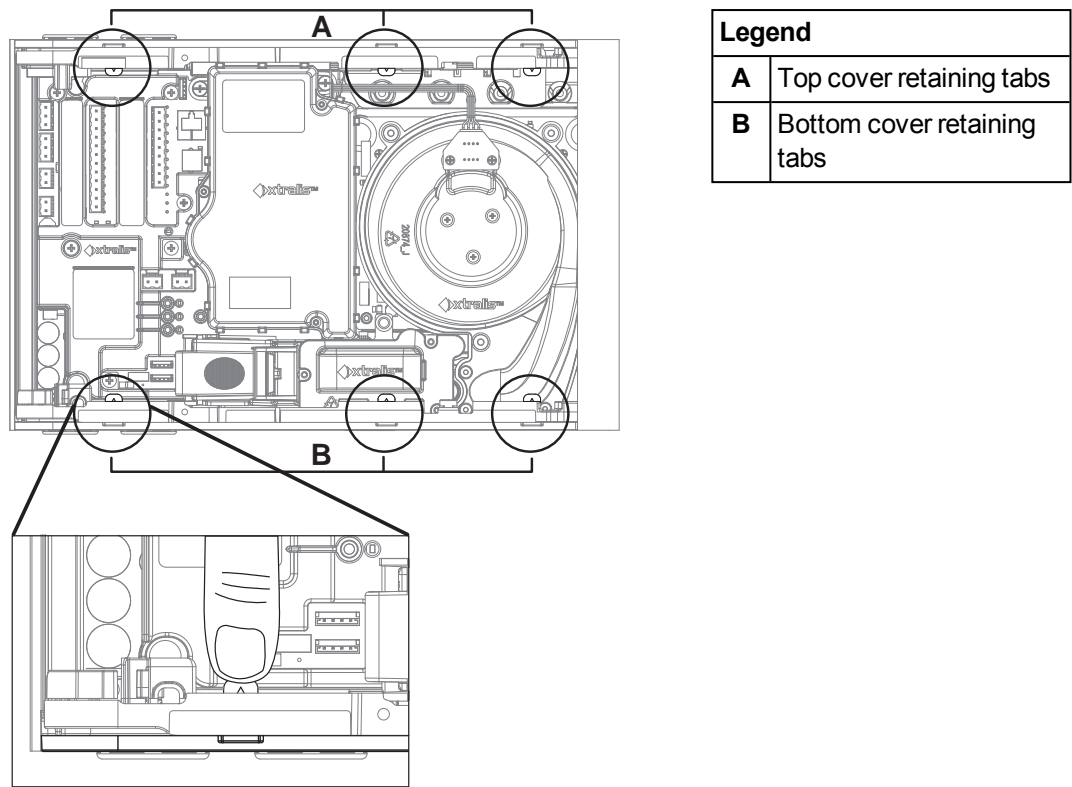

Figure 4-6: Tabs used to remove top and bottom cover
3. Take the top and bottom covers off. To do this, press the tabs marked A and B in Figure 4-6.